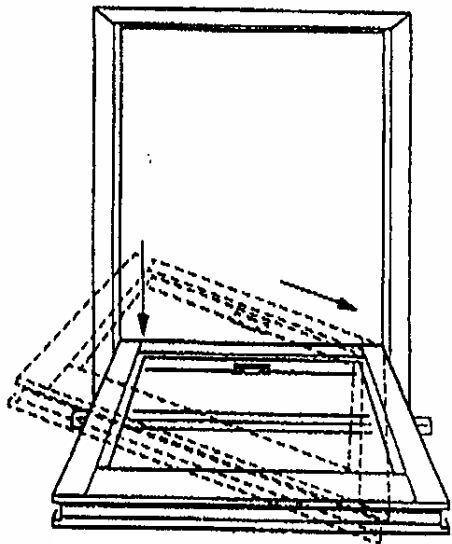

FIGURE 10
10. Lower left side of the sash with the campivot falling into the opposing track on the left. Lower until front edge of sash is level. See Figure 10.